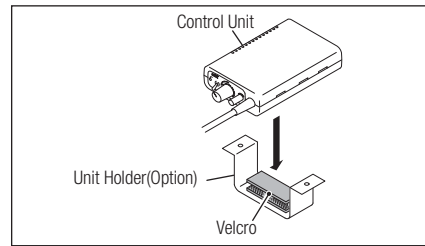

Fig. 5
1. Adhere the Velcro to the Control Unit. (Make sure the surface is clean) (Fig. 5)